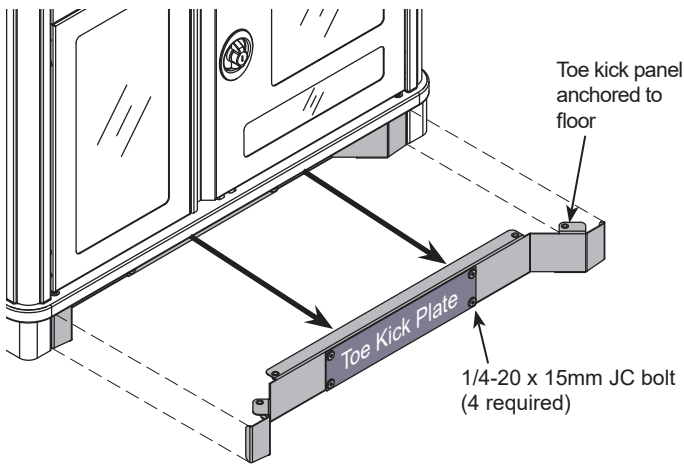

Figure 8.2
5. Move lectern into position over the anchored toe kick. **Figure 8.2.**
6. Align the (4) base panel mounting holes (instructor-side) with the toe kick panel mounting holes.
7. Attach toe kick plate with (4) 1/4-20 x 15mm JC bolts.